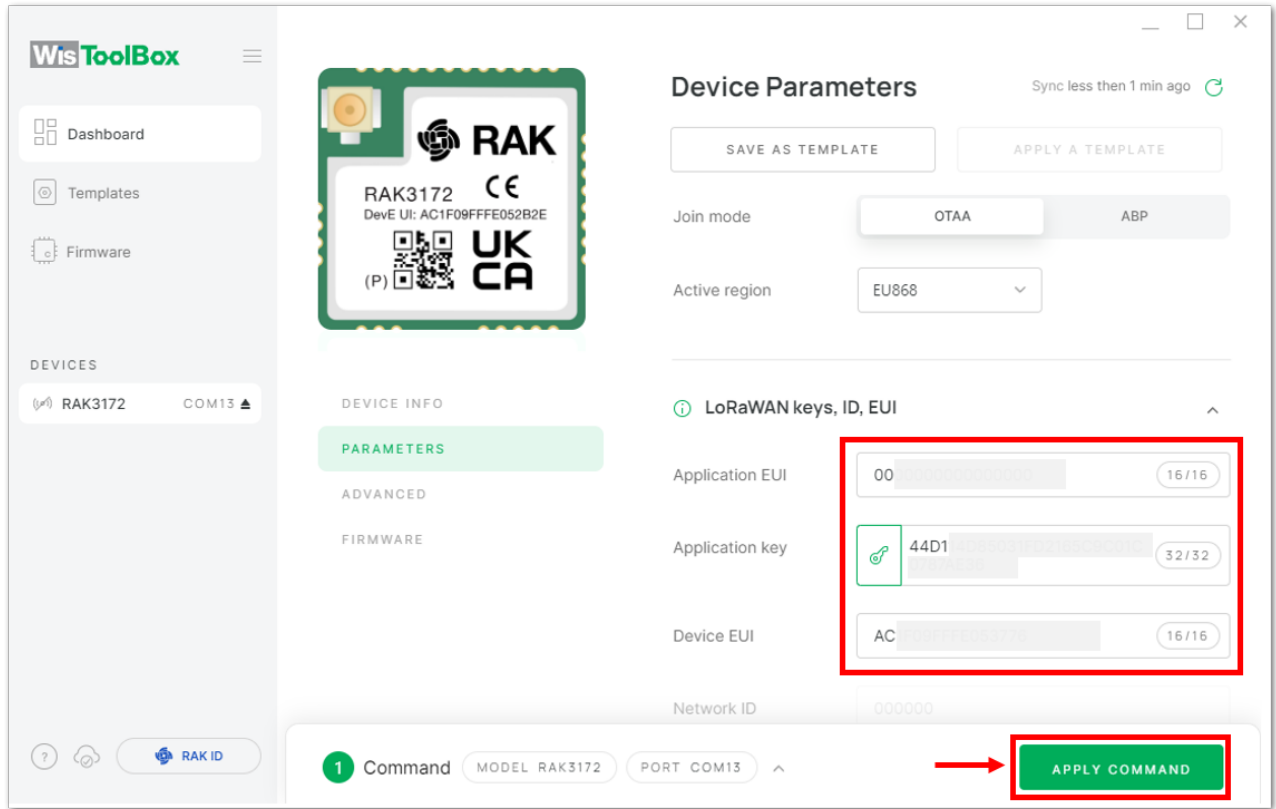

Figure 61: Used credentials from your console in WisToolBox dashboard
8. Then go back to console where your RAK3172 End device is created previously. Then copy all the credentials from there. Those will be the ones to be used also in the WisToolBox dashboard. Once encoded into the dashboard, click **APPLY COMMAND** to update your device as shown in **Figure 61**.